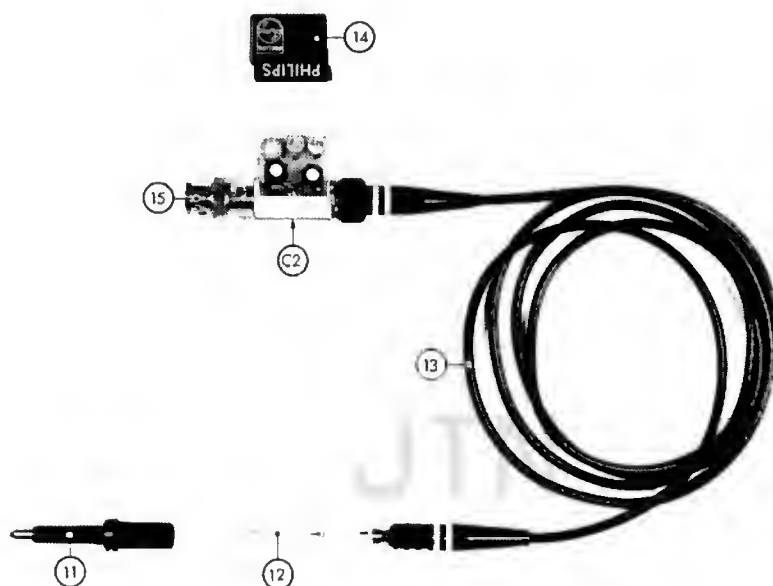

Fig. 3.37. Dismantling.
Dismantling the probe (see Fig. 3.37.)
Dismantling the compensation box (see Fig. 3.37.).
3.5.1.5.1. Mechanical parts (see Fig. 3.37. and 3.38.).